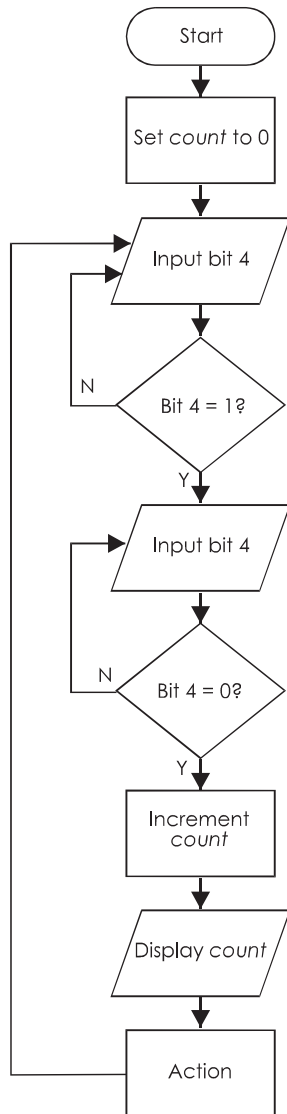

FIGURE 38.12 Counting events requires two checks on the input level.
- 10) Counting events**, such as the number of packages passing by on a conveyor belt, are programmed in the flow chart shown in Figure 38.12. This flowchart illustrates two important principles. The first is that all stored values must be **initialised** at the beginning of a program. It is not sufficient to assume that a given bit will be '0' to begin with. It might have been set to '1' by a previously run program. Here, the first thing is to set the counter value to zero.